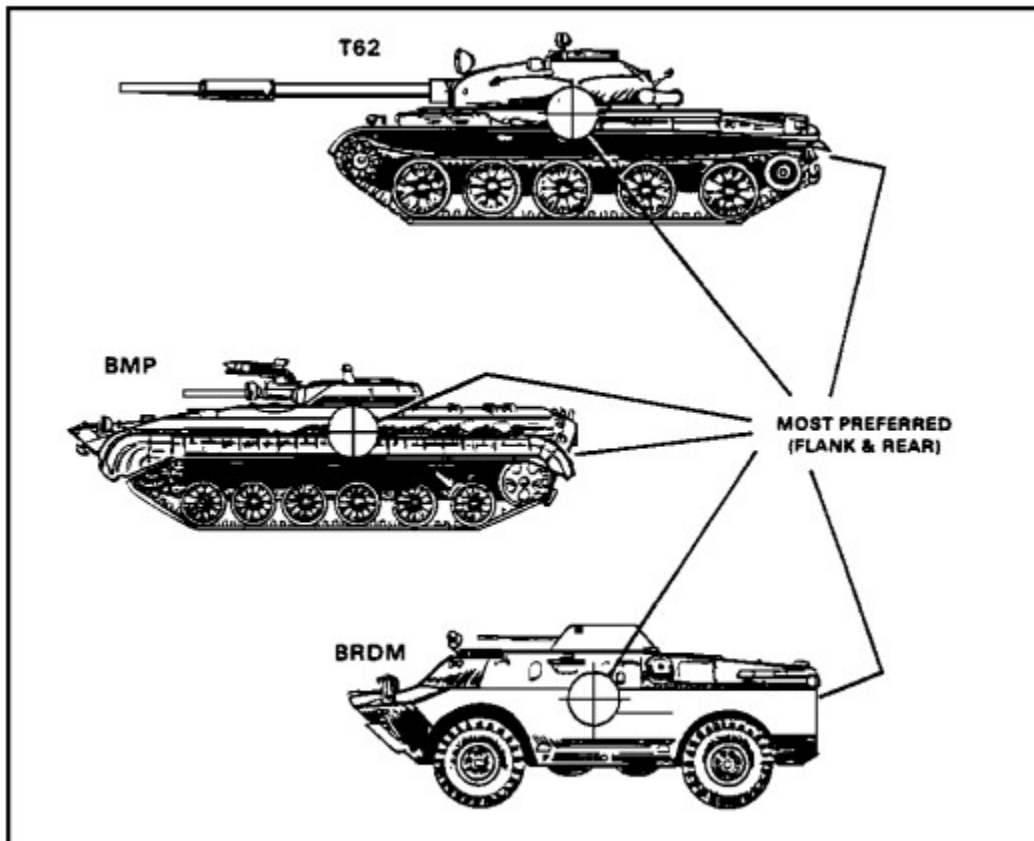

Figure 1-8. Armor Weak Points.
n. Target Vulnerability. An armored vehicle usually has its heaviest armor on the front slopes. By comparison, the top, rear, flanks, and bottom have much less armor protection. The weak points of armor for the T62, the Soviet fighting vehicle (BMP), and the BRDM are shown in Figure 1-8. Firers should try to engage an armored vehicle from the flank or the rear. The flank offers the largest possible target area for target engagement. Firers should always try to get a center-of-mass hit.